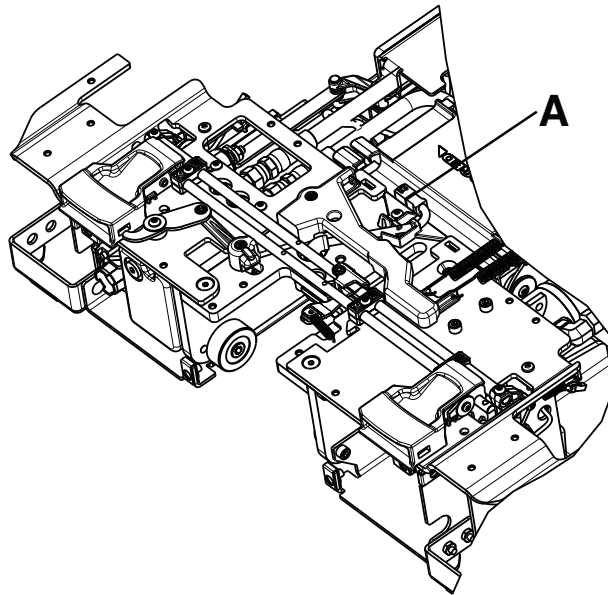

Figure 23 – Main cable assembly
3. Unplug the TPS cable (A) from the main cable assembly (Figure 23).